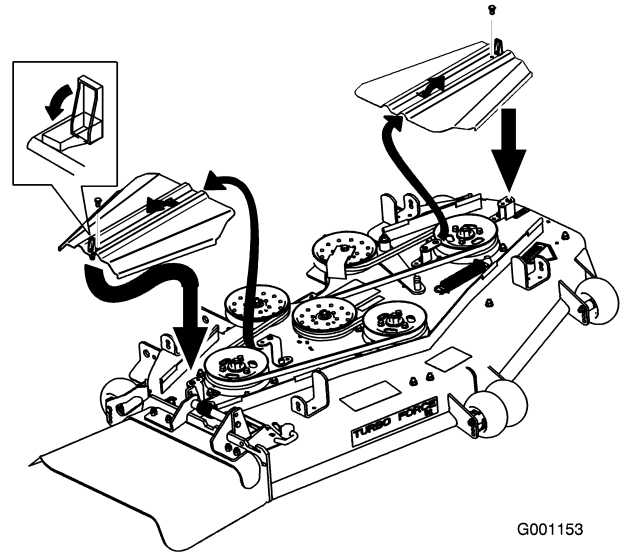

Figure 21
2. Remove the belt covers and bolts on international machines (Figure 21).